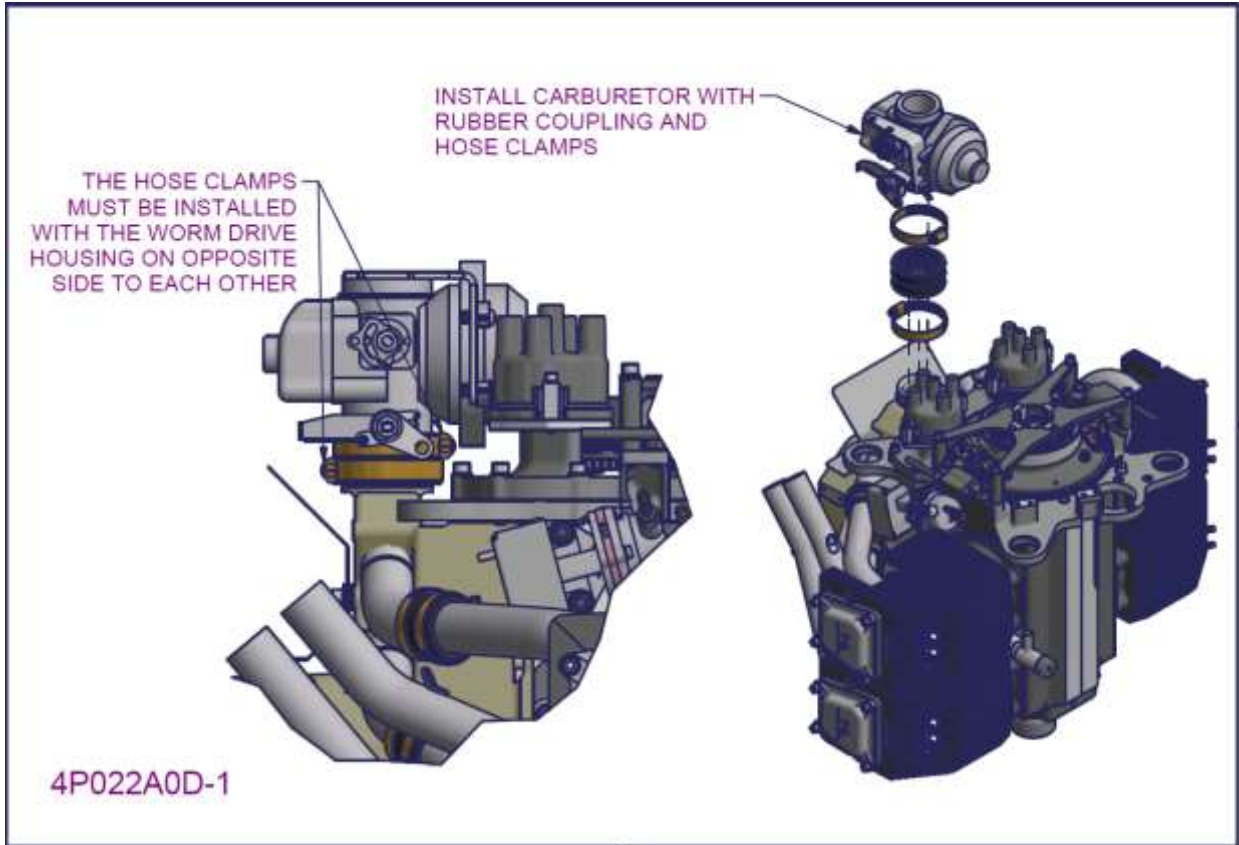

Figure 195 – 2200/3300 Carburettor and starter installation 1
- The hose clamps must be orientated so the worm drive housings are on opposite sides of the carburettor as shown in Figure 195.